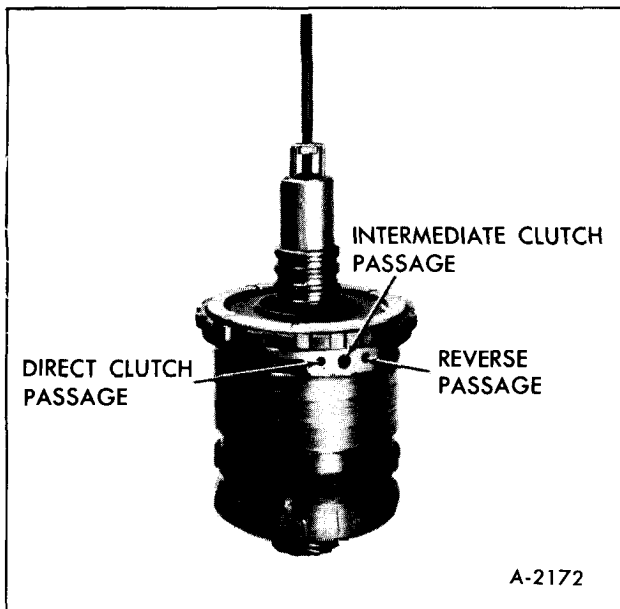

Figure 55-Gear Unit on Bench
8. Place gear unit assembly on bench with output flange down, Figure 55. Remove Tool J-21795.